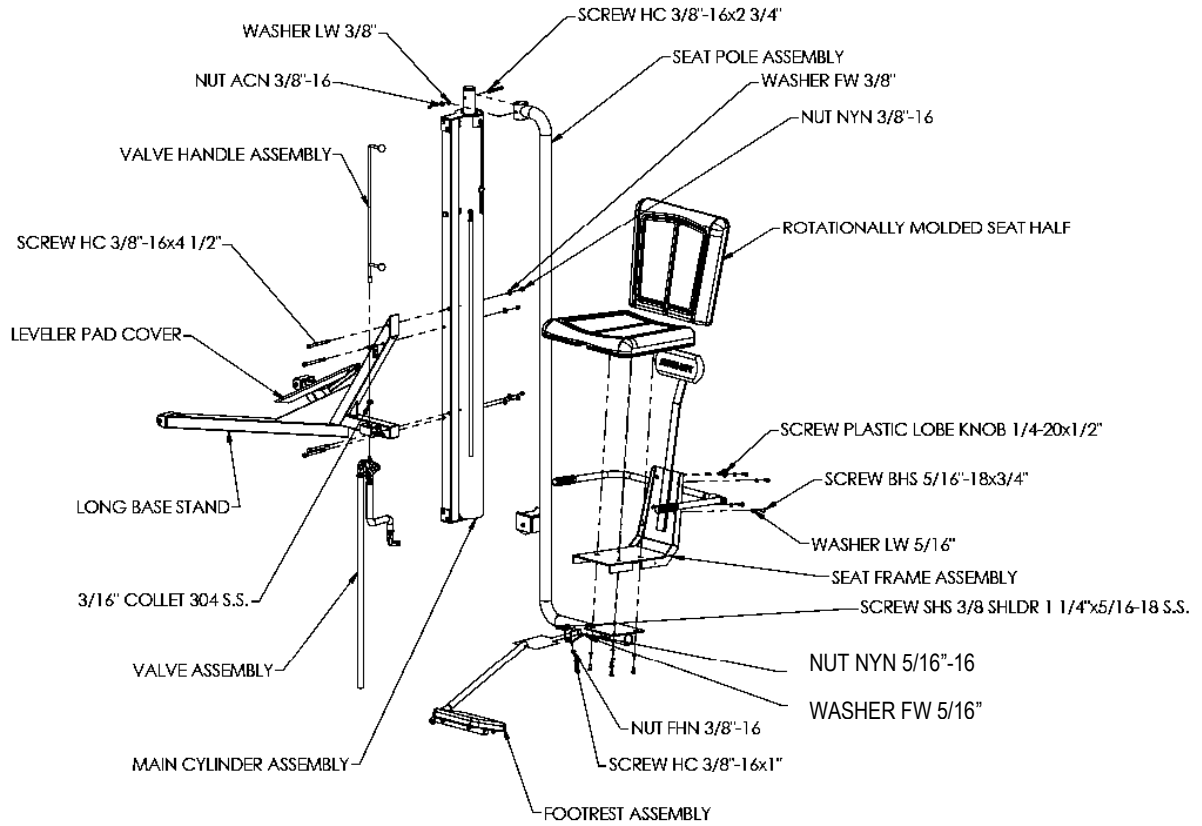

Figure 1
1. Attach the base of the Cylinder Support Column Assembly with four 3/8" – 16 x 4-1/2" hex head bolts protruding from the support column, as shown in figure 1. Secure the base with four 3/8" Flat washers and four 3/8" acorn nuts, torque to 20 ft-lb.
3. Mount the valve to the valve bracket on the base as shown in figure 1. Use the brass hardware supplied with the valve.
**NOTE:** The two-piece collar on the valve handle and slide the valve handle in place and may need to be repositioned. To move the collar, loosen the screws in the collar using a 7/64" hex key wrench. Move the collar so that it is just below the valve handle bracket and retighten the screws. See Figure 1.
6. Attach the Seat back to the Seat Frame with four 5/16" – 18x3/4" Button head screws torqued to 11 ft-lb, as shown in figure 1.
7. Attach the Seat bottom to the Seat Pole by using two 5/16" – 18 x 1" Button Head screws. First install a 5/16" – 18 x 1" button head screw and insert this through one of the two front holes of the Seat arm plate, then through the seat frame and then finally set the screw into the seat bottom as shown in figure 1, loosely.
8. After the Seat assembly has been secured with the two front 5/16" - 18 x 1" Button head screws, insert two 5/16" – 18 x 1" Button head screws through two 5/16" flat washers and then through the Seat belt grommets and into the Seat assembly tightening all 5/16" - 18 x 1" Button head screws to 11 lb-ft at this time, as shown in figure 1.
12. Connect Flip up footrest using one 3/8" – 16 x 1 1/4" Socket head shoulder screw, a 3/8" Flat washer and, 3/8" nylock nut torque to 20 ft-lb as shown in figure 1.